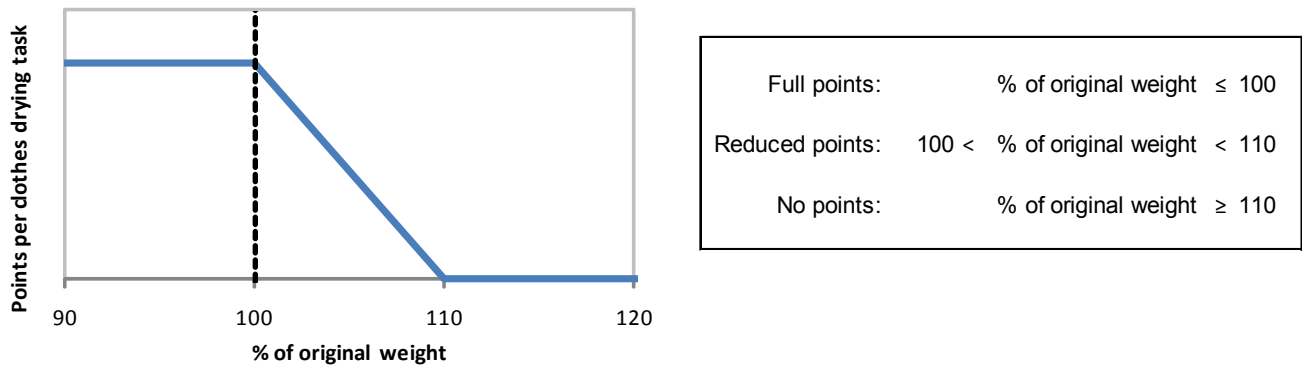

Figure 8: Scoring function for the Clothes Drying Subcontest
- Reduced points are earned if the “dry” towel weight is between 100.0% and 110.0% of the original towel weight. Reduced point values are scaled linearly, as shown in Figure 8.